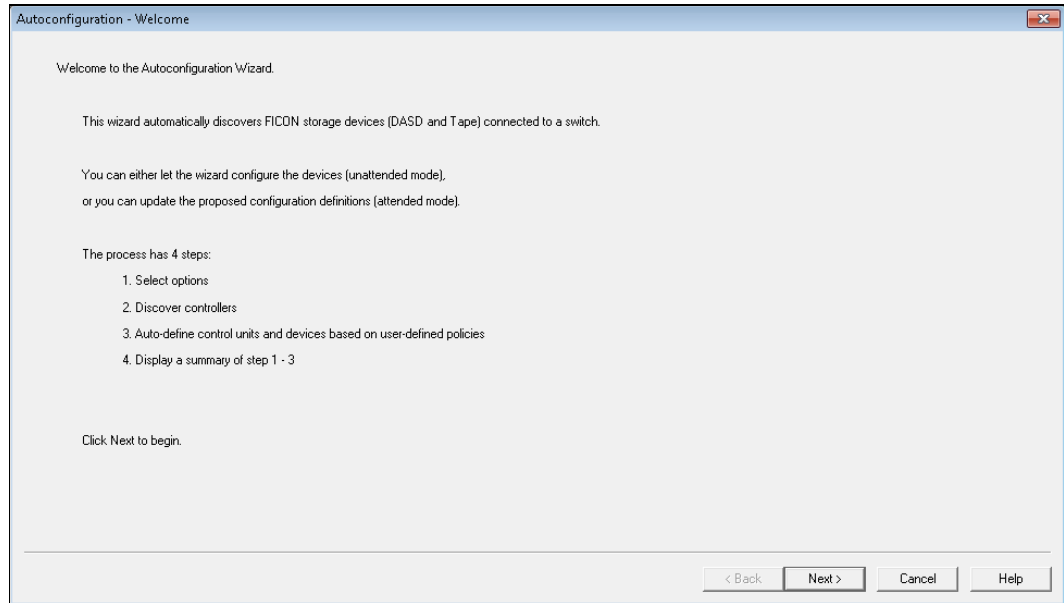

Figure 4-38 HCM - Autoconfiguration: welcome
2. The first window (Welcome) of the Autoconfiguration wizard opens (Figure 4-38 on page 145). Click **Next**.